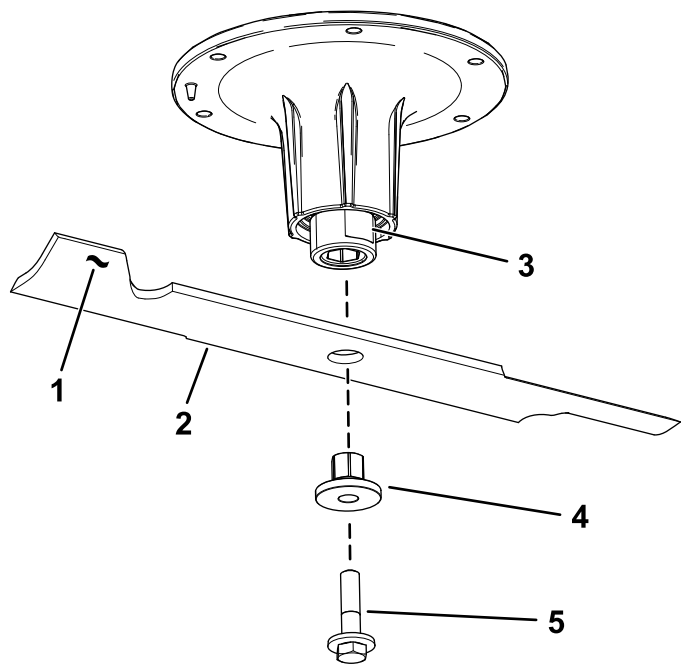

Figure 75
2. Remove the blade bolt, bushing, and blade from the spindle shaft (Figure 75).